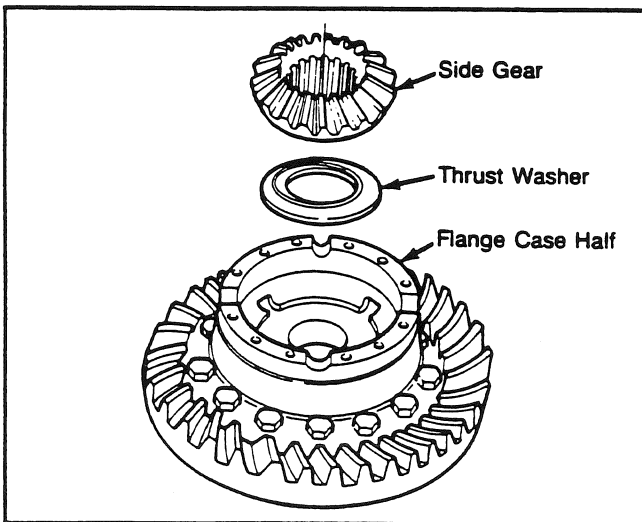

Fig. 54
6. Place the flange case half on a clean workbench, ring gear teeth toward the top. Install one thrust washer and side gear into the flange case half (see Fig. 54).